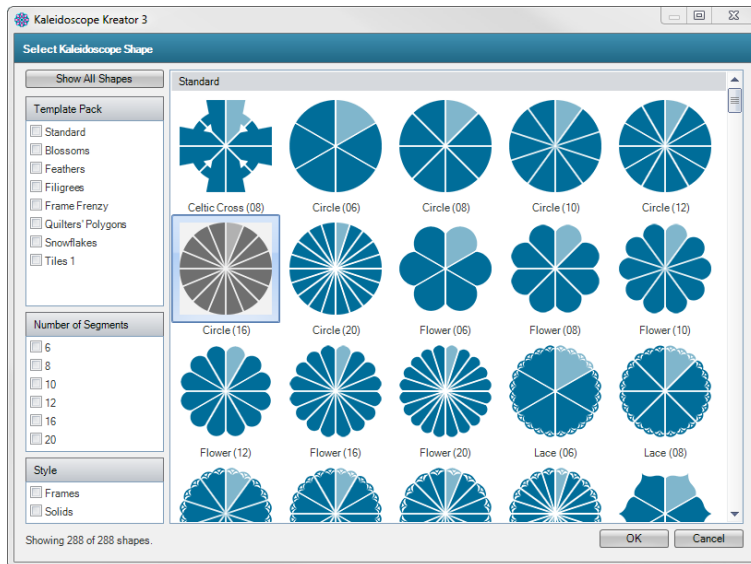

Figure 4
decide how wide of a wedge you want to doodle in by choosing the number of segments. Circle (16) was used to create the ornament above. (Fig. 4)